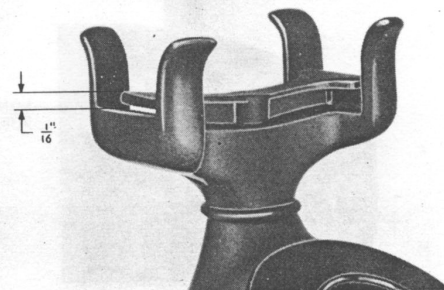

FIG. 2A — TYPES A, B, D, AND E MOUNTING MARGIN
3.03 When the plunger is slowly released on types A, B, D, and E mountings, no contacts shall make or break until the plunger has raised at least $1/16$ inch (see Fig. 2A).